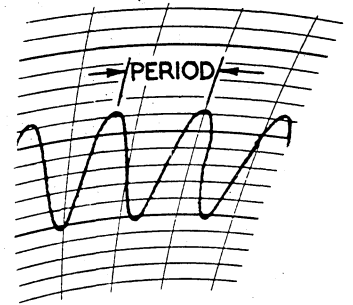

Fig. 6
- a. The period is the time required for the pen to describe one complete wave; the time from peak to peak. Fig. 6.